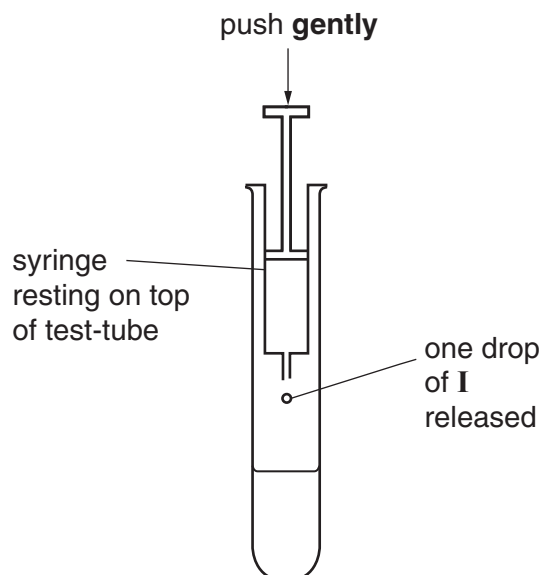

Fig. 1.2
2. Hold the syringe over an **empty** test-tube and push the plunger **gently** to release one drop at a time, as shown in Fig. 1.2.
8. Add **one** drop of **I** to the mixture in the test-tube as shown in Fig. 1.2.